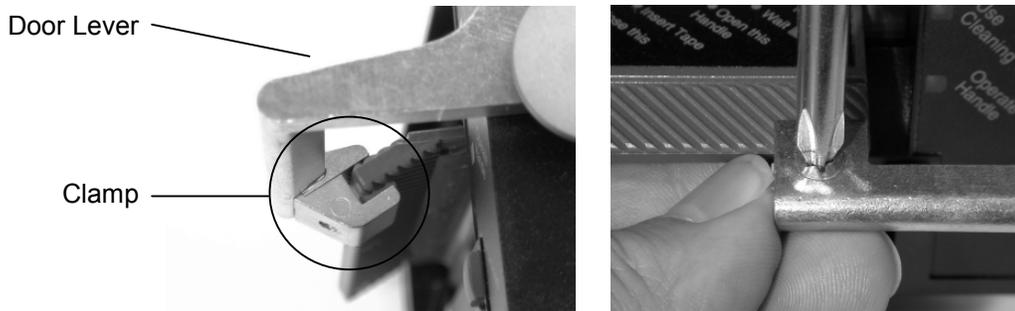

Figure 5-14 Door Lever Clamp
2. Loosen the screw on the clamp, and then slide the door lever onto the D-shaft located in the round opening on the side of the tape drive (Figure 5-12). Slide the lever until it touches the side, being sure to position the drive's handle into the clamp (Figure 5-14).
4. Grasp the door lever and slide it as far as possible to the left. Align the clamp on the drive's handle so that the handle is fully inserted into the clamp and the door lever is parallel with the face of the tape drive. Hold the bottom of the clamp and tighten the screw securely (Figure 5-14).